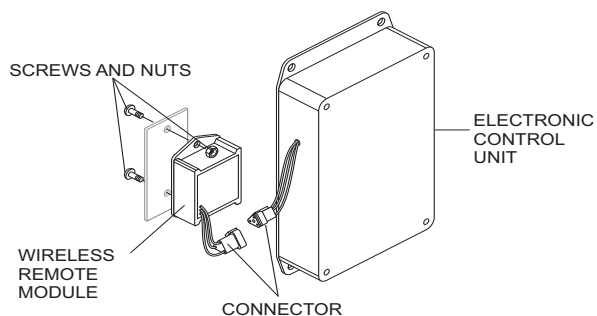

Figure 35. Installing Remote Control Module
3. Install the wireless remote module with the 2 screws and nuts provided inside the control panel. Connect the 3-wire connector from the wireless remote module to the electronic control unit. See Figure 35.